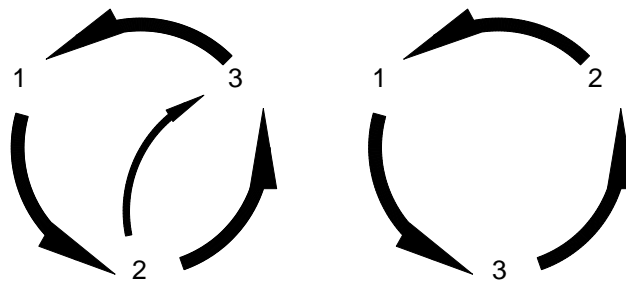

Figure 5
6. Press both cut buttons simultaneously to activate the motor and check to make sure it is turning the same direction as the arrow on the motor casing. If it is not turning the proper direction, disconnect the power and exchange any two leads of the power cord as in Figure 5.